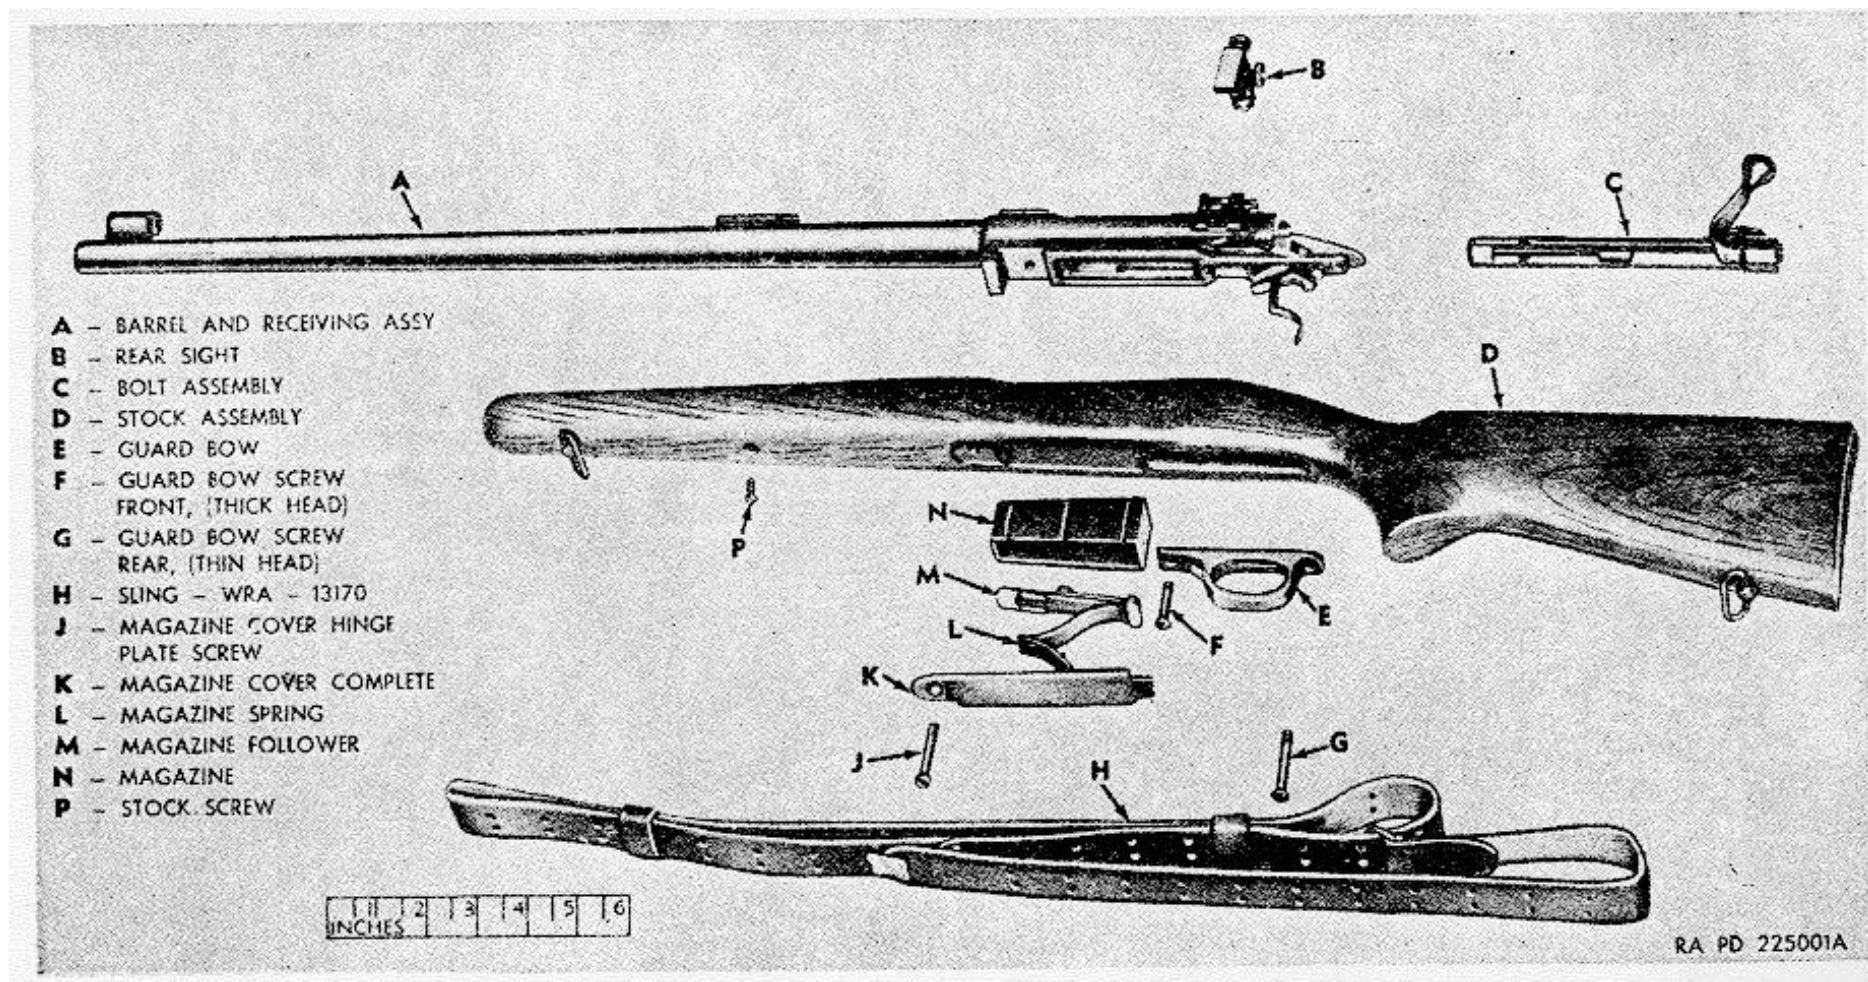

Figure 51. Cal.. 30-06 Winchester rifle model 70-field stripped.
- (1) Unload cartridges from magazine and chamber (par. 25).
- (2) Remove the bolt assembly (C, fig. 51) (par. 15).
- (3) Remove the Lyman rear sight No. 48WH slide group (par. 16g).
- (4) Remove the Lyman front sight No. 77 from its base (par. 17h).
- (5) Remove the sling-WRA-13170. Depress the magazine cover catch and open the magazine cover. Unscrew magazine cover hinge plate screw and remove cover. Slide magazine spring from magazine cover and magazine follower.
- (6) Remove the guard bow front screw and guard bow rear screw from the stock. Remove the guard bow. Remove the magazine tube from the receiver well.
- (7) Remove the barrel stock screw from the barrel and separate the barrel and receiver group from the stock assembly.